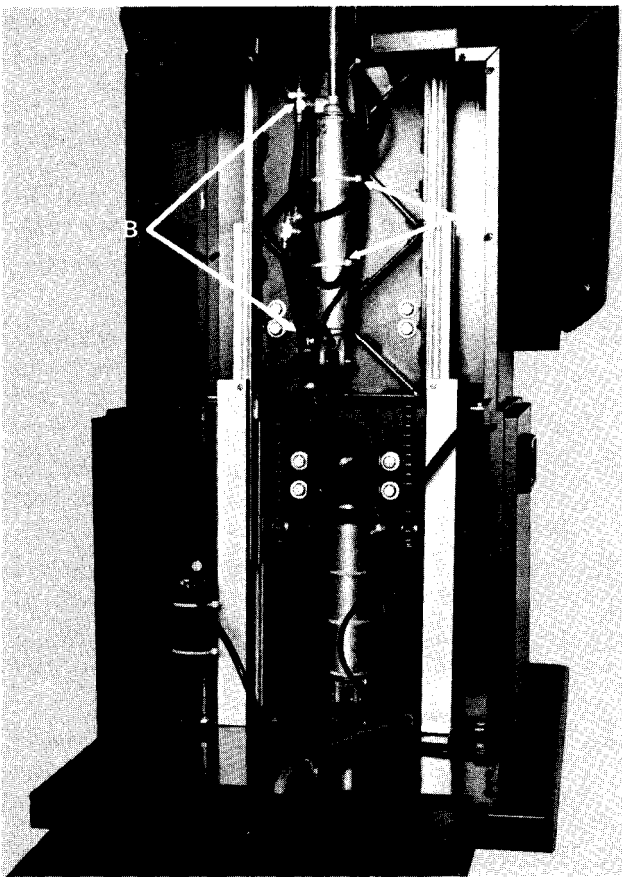

Fig. 16
- 1) When changing a cylinder, notice how the wires, hose fittings and nylon ties are positioned so that they may be replaced in exactly the same way or damage to the wires and hoses may result in electrical shock or hose leakage. (See Fig. 16).
- 4) Remove large tie straps from tilt cylinder, (Item A, Fig. 16).
- 5) Remove fittings from defective cylinder with 1/2" wrench. **NOTE:** Nylon ties (Item B, Fig. 16) must not be removed from cord and hose assembly.
- 1) When changing the cylinder, notice how the wires, hose fittings, and nylon ties are positioned so they may be replaced in exactly the same way, (See Figs. 16 and 20).
NOTE: It is important that all ties and clamps are replaced in exactly the same spot on the hoses, particularly the ties that attach the spring or damage to the wires and hoses may result in electrical shock or hose leakage. (See Figs. 16 and 20).